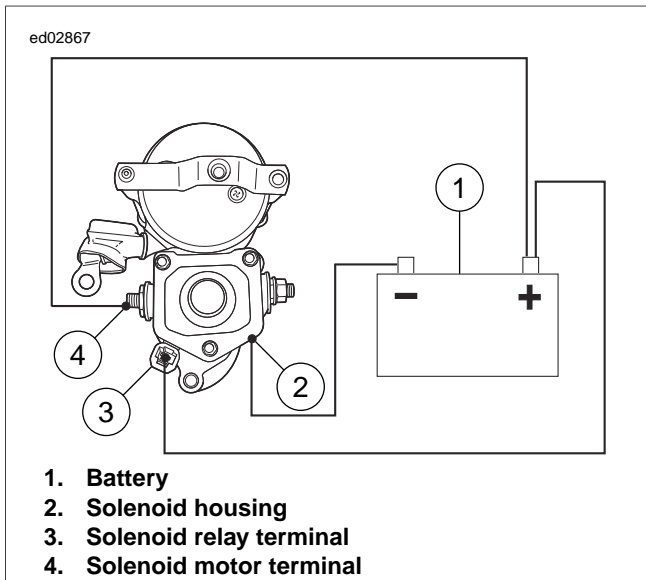

Figure 3-7. Hold-In Test
1. See Figure 3-7. With test leads still connected in the manner specified in the previous 3.4 TESTING STARTER ON BENCH, Solenoid Pull-In Test, disconnect solenoid motor terminal/battery negative test lead at negative battery post only; reconnect loose end of this test lead to positive battery post instead.